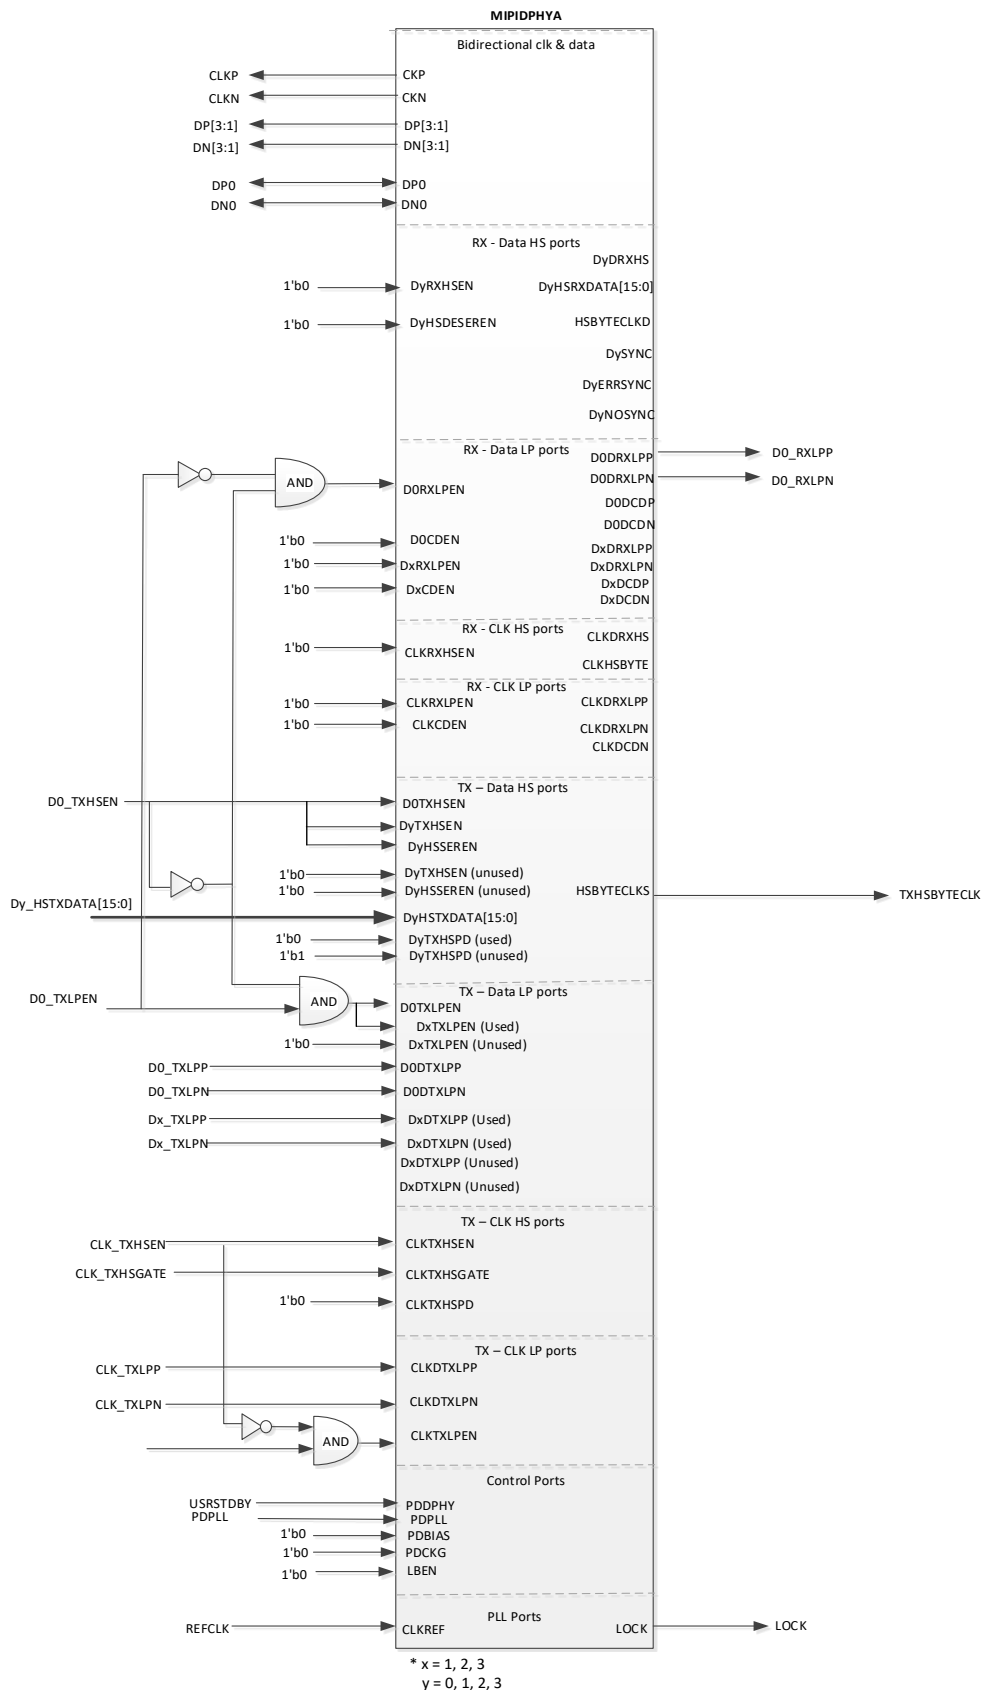

Figure 5.28. MIPI DSI Transmit with Hard D-PHY Module
- Figure 5.28 shows the signals connected to the fabric and the automatic settings when the hardened D-PHY is configured for DSI transmit mode. The Clarity Catalog GUI settings automatically powers down unused lanes of the hardened D-PHY.
- Only D0 and CLK bits are used in LP mode. Only D0 is used as a bidirectional pin. D1, D2, and D3 pins (when those lanes are used) should be toggled between LP/HS mode based on D0 state as shown in Figure 5.28.